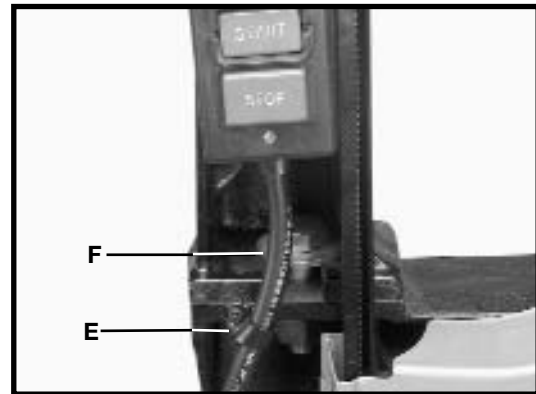

Fig. 16
7. Insert the switch cord (F) Fig. 16, into the clamp (E) (removed in **STEP 6**), and fasten the switch cord (F) to the bandsaw.
**IMPORTANT:** Be certain to prevent contact between the on/off switch-to-motor cord (F) Fig. 16 and the motor pulley or belt. If necessary, adjust the cord, then tighten the cable tie (H) Fig.11.